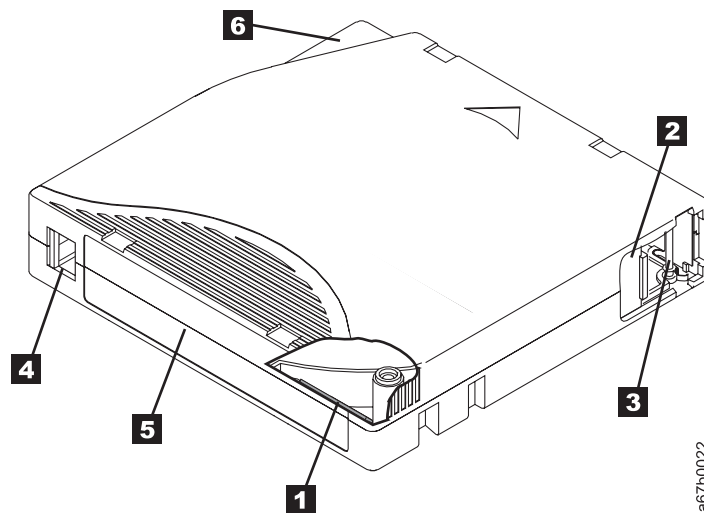

Figure 4-1. The IBM LTO Ultrium 800 GB Data Cartridge
Figure 4-1 shows the IBM LTO Ultrium 800 GB Data Cartridge and its components.
All generations of the IBM LTO Ultrium Data Cartridges include a Linear Tape-Open Cartridge Memory (LTO-CM) chip ( **1** in Figure 4-1 on page 4-1), that contains information about the cartridge and the tape (such as the name of the manufacturer that created the tape), as well as statistical information about the cartridge’s use. The LTO-CM enhances the efficiency of the cartridge. For example, the LTO-CM stores the end-of-data location which, when the next time this cartridge is inserted and the Write command is issued, enables the drive to quickly locate the recording area and begin recording. The LTO-CM also aids in determining the reliability of the cartridge by storing data about its age, how many times it has been loaded, and how many errors it has accumulated. Whenever a tape cartridge is unloaded, the tape drive writes any pertinent information to the cartridge memory.
When attaching a bar code label to a tape cartridge, place the label only in the recessed label area (see **5** in Figure 4-1 on page 4-1). A label that extends outside of the recessed area can cause loading problems in the drive.
- Position the label within the recessed label area (see **5** in Figure 4-1 on page 4-1).